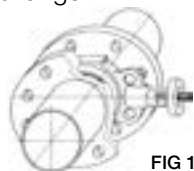

FIG 1
- Hvis installeret vandret, anbefales det at butterflyventilen monteres i horisontal position, sådan at bunden af klappen vil åbne i retning af flow. Det vil forhindre tilstopning af strømmen og akkumulering af snavs (se fig 1).
- When installed horizontal it is recommended that the butterfly valve is to be mounted in horizontal position, as such that the bottom of the disc will open in the direction of the flow. This prevents sludging of the flow and accumulation of dirt (see fig 1).